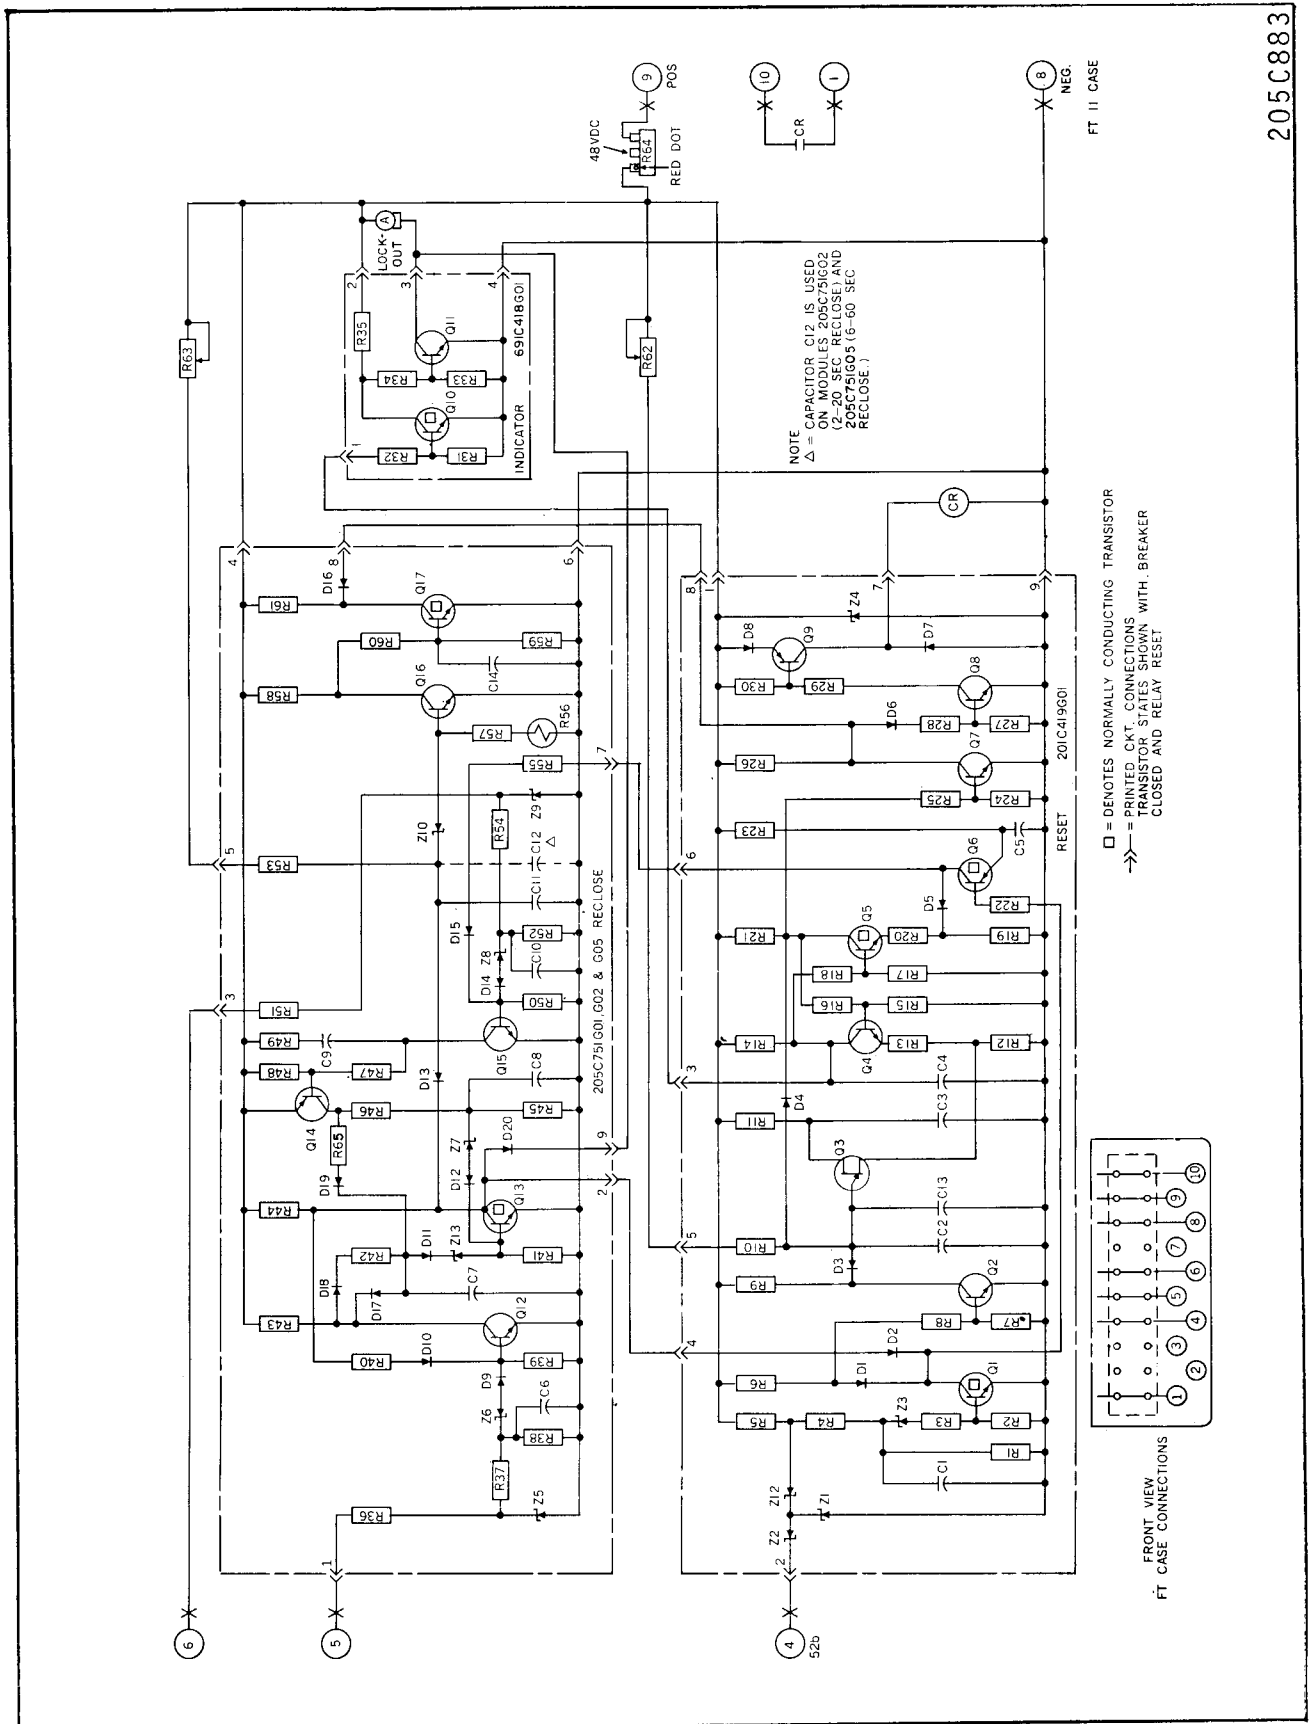

Fig. 3. Internal Schematic of Type SGR-52 Relay - 48/125 VDC.
The SGR-52 is a static relay consisting of a Reclose circuit board, a Reset circuit board, and an Indicator circuit board. The Reset circuit board contains (1) a timing circuit (2) a flip-flop control circuit, (3) a close relay circuit, and (4) a flip-flop set circuit. The Reclose board contains a reclose time delay circuit with permit and block inputs. The Indicator board provides amplification for the lockout indicator. All components except the dropping resistor, lockout indicator, and the close relay are mounted on a printed circuit board. All components are identified on the internal schematic in Figures 3, 4; & 5.
The following description is made with reference to Figure 3.